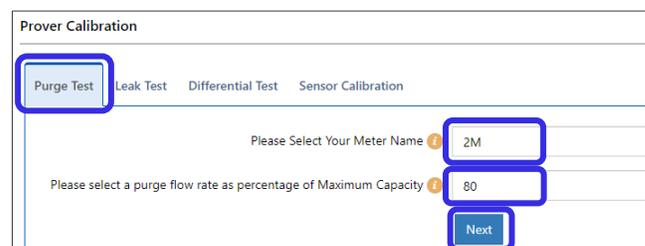

Figure 91: Purge test settings tab
9. In the Prover Calibration screen, click the **Purge Test** tab (Figure 91).